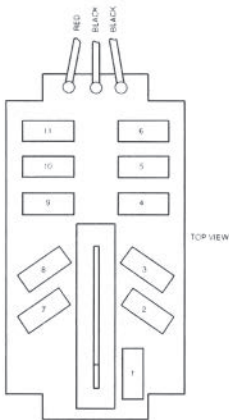

Figure 4-1. Potentiometer Adjustments, Model CL-301
2. Move the slide switch to the lowest temperature position (position 1) and adjust corresponding potentiometer (Pot 1, Figure 4-1) according to the resistance value obtained from Table 4-1.
3. Move the switch to the next temperature position (2) and adjust corresponding potentiometer (Pot 2).